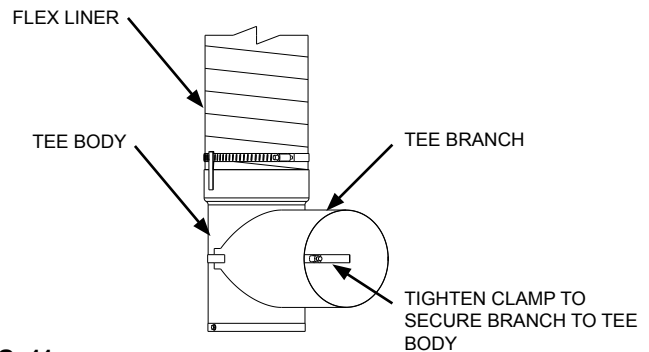

FIG. 11
Step 3: When the Tee Body is in its final location, remove rope and attach the Tee Branch to Tee Body using the Branch clamp band. Secure Branch by tightening clamp band (See FIG. 11).